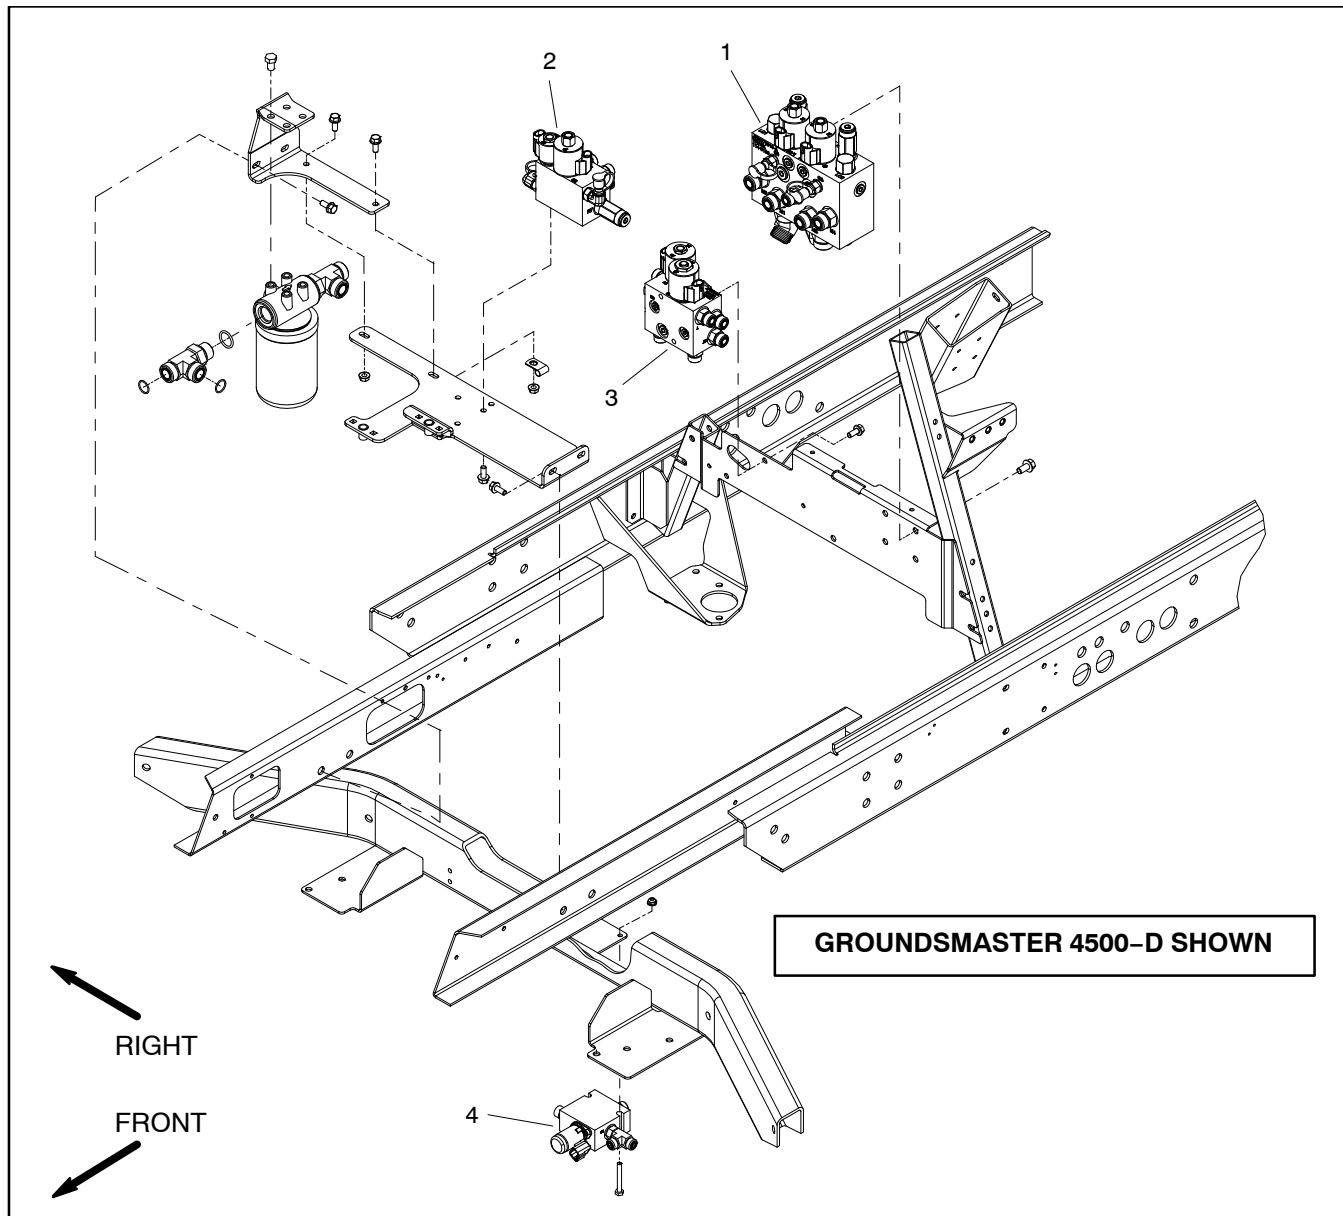
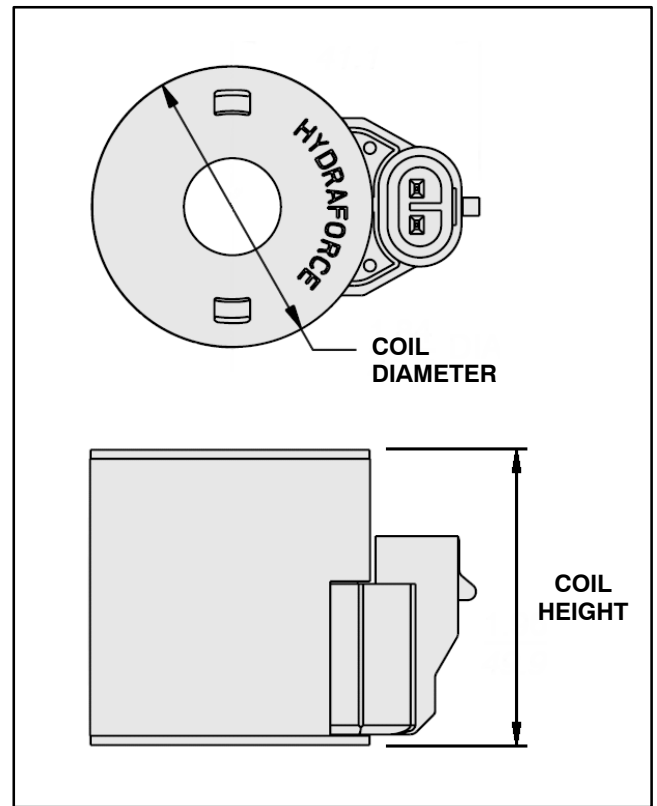

Figure 51
Figure 52
Three (3) different solenoid valve coils are used on your Groundsmaster. Two (2) of these coils slide onto the solenoid valve and are secured with a nut. Additionally, the HI/LOW range control manifold (item 4 in Figure 51) includes a solenoid valve with an integral solenoid coil. Testing of all of these coils can be done with the coil remaining on the hydraulic valve.
2. Locate hydraulic solenoid valve coil to be tested (Fig. 51).
4. Using a multimeter (ohms setting), measure resistance between the two (2) connector terminals on the solenoid valve coil.
A. If coil is secured to valve with a nut, identify coil by measuring the coil diameter and coil height (Fig. 52). The correct resistance for the solenoid coil is identified in the table below.
B. The resistance of the solenoid valve coil in the HI/LOW range control manifold (item 4 in Figure 51) is 7.1 ohms.